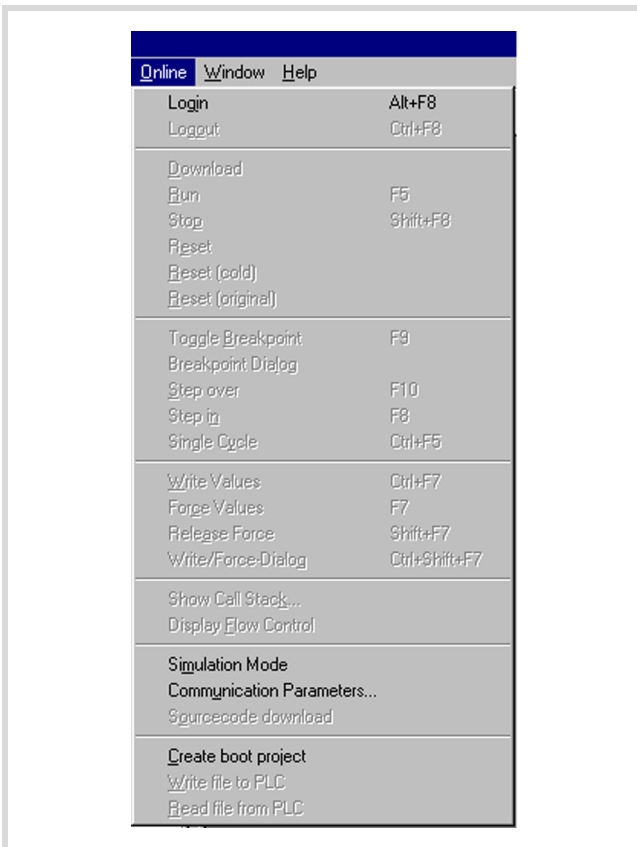

Figure 9: Menu "Online"
- ▶ Select the menu <Online → Communication parameters> (→ figure 9).
- ▶ Select the menu <Online → Start> (→ figure 9). This puts the controller into the RUN mode.